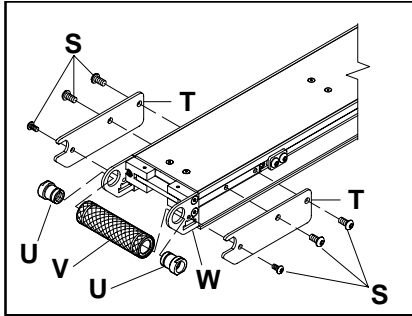
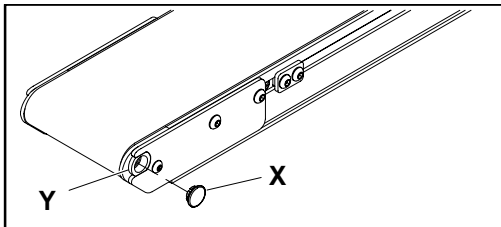
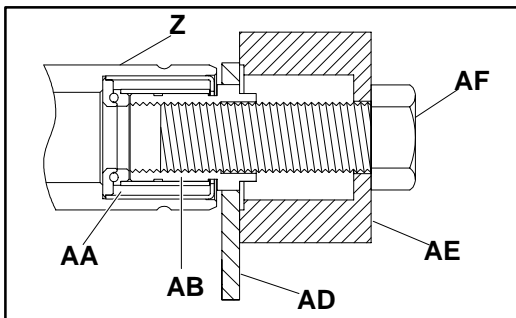

Figure 26
Figure 27
Figure 28
2. Remove the tail cover plate screws (S of Figure 26) and tail cover plates (T) on both sides of the conveyor.
3. Remove the retaining sleeves (U) and pulley (V). If retaining sleeves are frozen, continue with the next step.
4. All non-driven positions have a plastic plug (X of Figure 27) installed into the ends of the pulley retaining sleeves (Y). Use a small flat screwdriver to remove this plug.
5. Position the bearing anvil/sleeve removal tool (AE of Figure 28), part number ☆25-09, over the retaining sleeve (U of Figure 26 or AB of Figure 28).
6. Insert the special threaded bolt (AF of Figure 28), part number ☆906-278, through the bearing anvil/sleeve removal tool (AE) and into the retaining sleeve (AB).
7. Tighten the bolt (AF) until the retaining sleeve (AB) is free of the tail pulley plate (AD).
8. Remove the retaining sleeve (AB) from the bolt (AF) and repeat for the other side.
9. Take pulley (Z) out of the conveyor frame.
Refer to Figure 26 on page 16 to install pulleys as described below:
1. Insert pulley (V of Figure 26) between the tail pulley plates (W).
2. Slide the retaining sleeves (U) through openings in the tail pulley plates (W) and into the pulley (V) on each side.
3. Install the plastic plug (X of Figure 27) into the ends of the pulley retaining sleeves (Y).
4. Secure the tail cover plates (T of Figure 26) to the conveyor with tail cover plate screws (S).